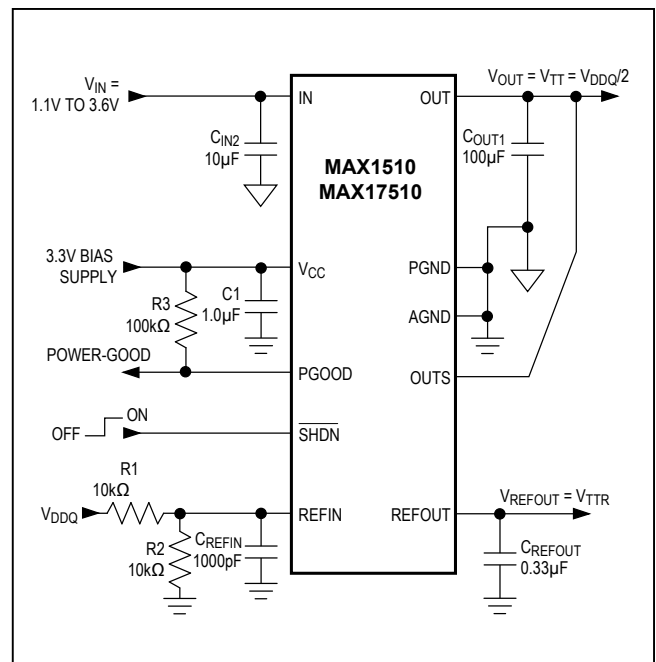

Figure 1. Standard Application Circuit
($V_{IN} = 1.8V$, $V_{CC} = 3.3V$, $V_{REFIN} = V_{OUTS} = 1.25V$, $\overline{SHDN} = V_{CC}$, circuit of Figure 1, $T_J = T_A = -40^\circ C$ to $+85^\circ C$ for MAX1510ETB, $T_J = T_A = -40^\circ C$ to $+125^\circ C$ for MAX17510ATB, unless otherwise noted. Typical values are at $T_A = +25^\circ C$.) (Note 1)
($V_{IN} = 1.8V$, $V_{CC} = 3.3V$, $V_{REFIN} = V_{OUTS} = 1.25V$, $\overline{SHDN} = V_{CC}$, circuit of Figure 1, $T_J = T_A = -40^{\circ}C$ to $+85^{\circ}C$ for MAX1510ETB, $T_J = T_A = -40^{\circ}C$ to $+125^{\circ}C$ for MAX17510ATB, unless otherwise noted. Typical values are at $T_A = +25^{\circ}C$.) (Note 1)
(Circuit of Figure 1. $T_A = +25^\circ\text{C}$, unless otherwise noted.)
The MAX1510/MAX17510 are low-voltage, low-dropout DDR termination linear regulators with an external bias supply input and a buffered reference output (see Figures 1 and 2). V_{CC} is powered by a 2.7V to 3.6V supply that is commonly available in laptop and desktop computers. The 3.3V bias supply drives the gate of the internal pass transistor, while a lower voltage input at the drain of the transistor (IN) is regulated to provide V_{OUT}. By using separate bias and power inputs, the MAX1510/MAX17510 can drive an n-channel high-side MOSFET and use a lower input voltage to provide better efficiency.
The MAX1510/MAX17510 regulate OUTS to the voltage set at REFIN, making the devices ideal for memory applications where the termination supply must track the supply voltage. Typically, REFIN is set by an external resistive voltage-divider connected to the memory supply (VDDQ) as shown in Figure 1. The maximum output voltage of 1.5V is limited by the gate-drive voltage of the internal n-channel power transistor.